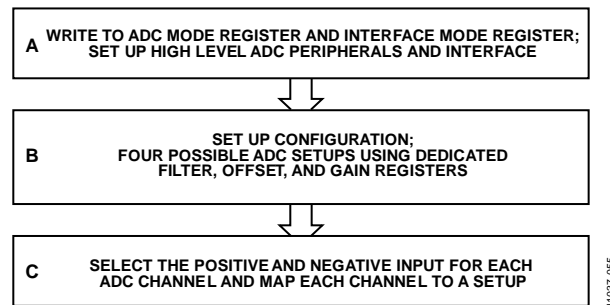

Figure 28. Configuration Flow
Figure 28 provides an overview of the configuration flow, divided into the following three blocks:
- ADC and interface mode configuration (labeled A in Figure 28)
- ADC setups (labeled B in Figure 28)
- Channel map configuration (labeled C in Figure 28)
The ADC mode register and the interface mode register (see Block A in Figure 28) configure the core peripherals to be used by the AD7176-2 and the mode for the digital interface.
The AD7176-2 has four independent setups (see Block B in Figure 28). Each setup consists of the following four registers:
The AD7176-2 has four independent channels (see Block C in Figure 28). The user can select which of the four setups is used for each channel. This allows for per channel configuration.